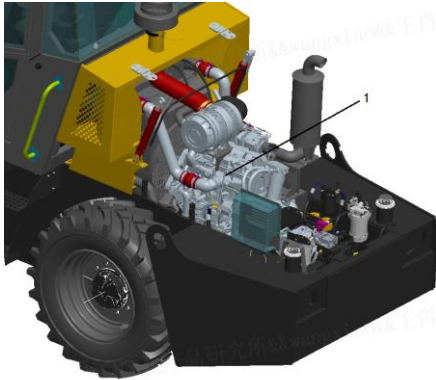

Figure 3-4
3.4.1.3 Check engine oil level (Figure 3-4)